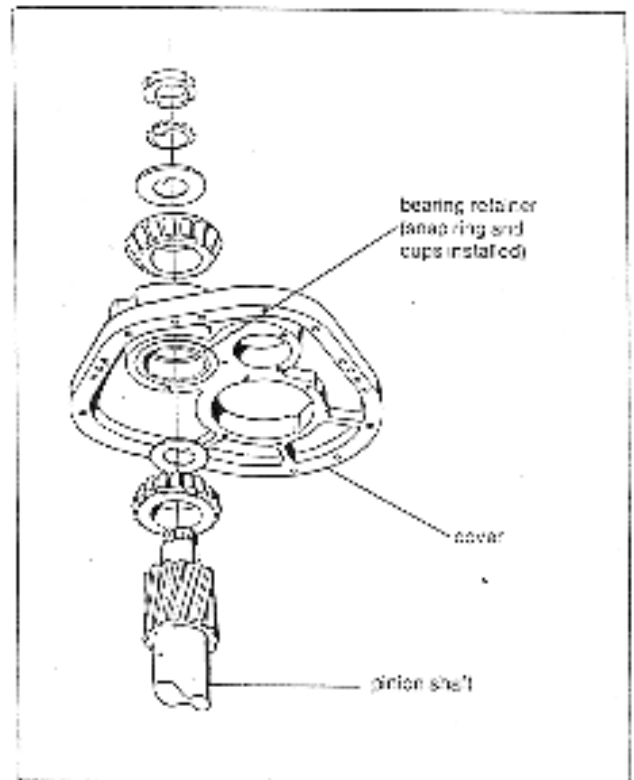

Fig. 38. Installation of Pinion Shaft Assembly
11. For installation of pinion shaft assembly proceed as follows: (see fig.38).